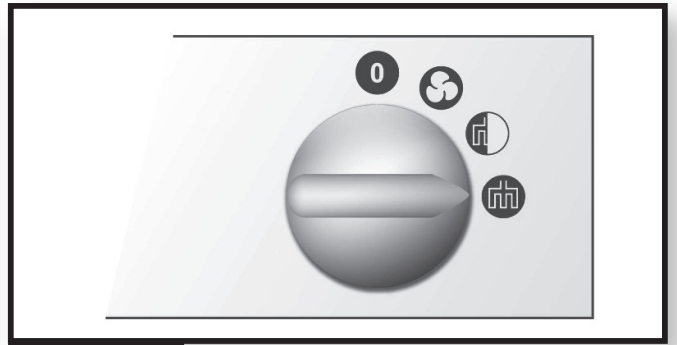

Fig. 6
- ▶ 2nd degree of heating: Fig. 6.